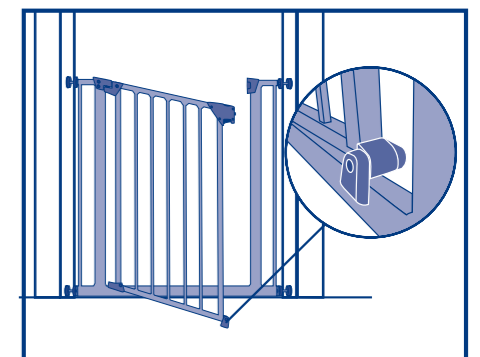

Fig. 7
- Set door stopper on the bottom of gate by turning plastic downward in the opposite direction of use. (Fig. 7)